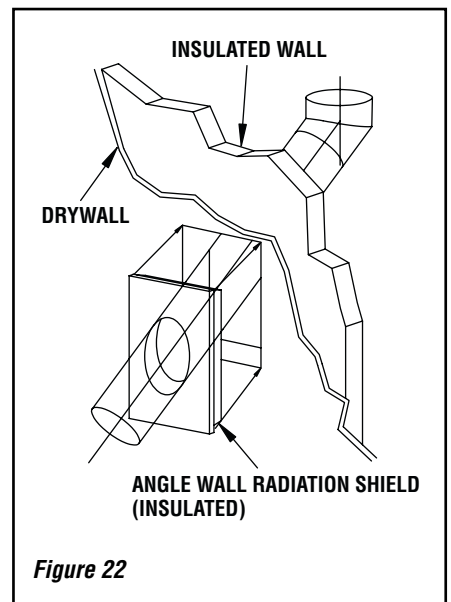

Figure 22
1. Install the first elbow. Turn it in the required direction. Fasten it to the chimney with the three (3) 1/2" (12mm) metal screws provided.
2. Install the necessary lengths to achieve the required offset. Lock the chimney lengths together: it is recommended to use three (3) 1/2" (12mm) screws. If the offset length is made of two (2) chimney lengths use an offset support halfway up the offset. If penetrating a wall, install a wall radiation shield (see **Figure 22**).
3. Use another elbow to turn the chimney vertically. Secure the elbow, using three (3) 1/2" (12mm) screws.
2. Install the necessary chimney lengths to achieve the required offset. Lock the chimney lengths together. If penetrating a wall, use a wall radiation shield (**Figure 22**).
When traversing a combustible wall with the chimney at a 30° or 45° angle, an angled firestop and/or wall radiation shield must be installed. Only one is required (Figure 22). Table 6 gives recommended hole size for installing a wall radiation shield.